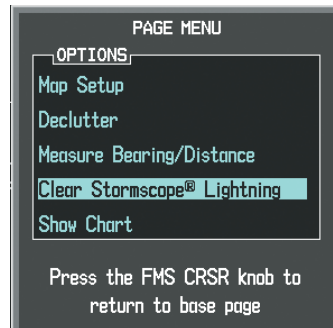

Figure 6-41 Navigation Map Page Options Menu
If heading input is lost, strikes and/or cells must be cleared manually after the execution of each turn (Figure 6-41). This is to ensure that the strike and/or cell positions are depicted accurately in relation to the nose of the aircraft.
- 2) Select 'Clear Stormscope Lightning' (Figure 6-41).